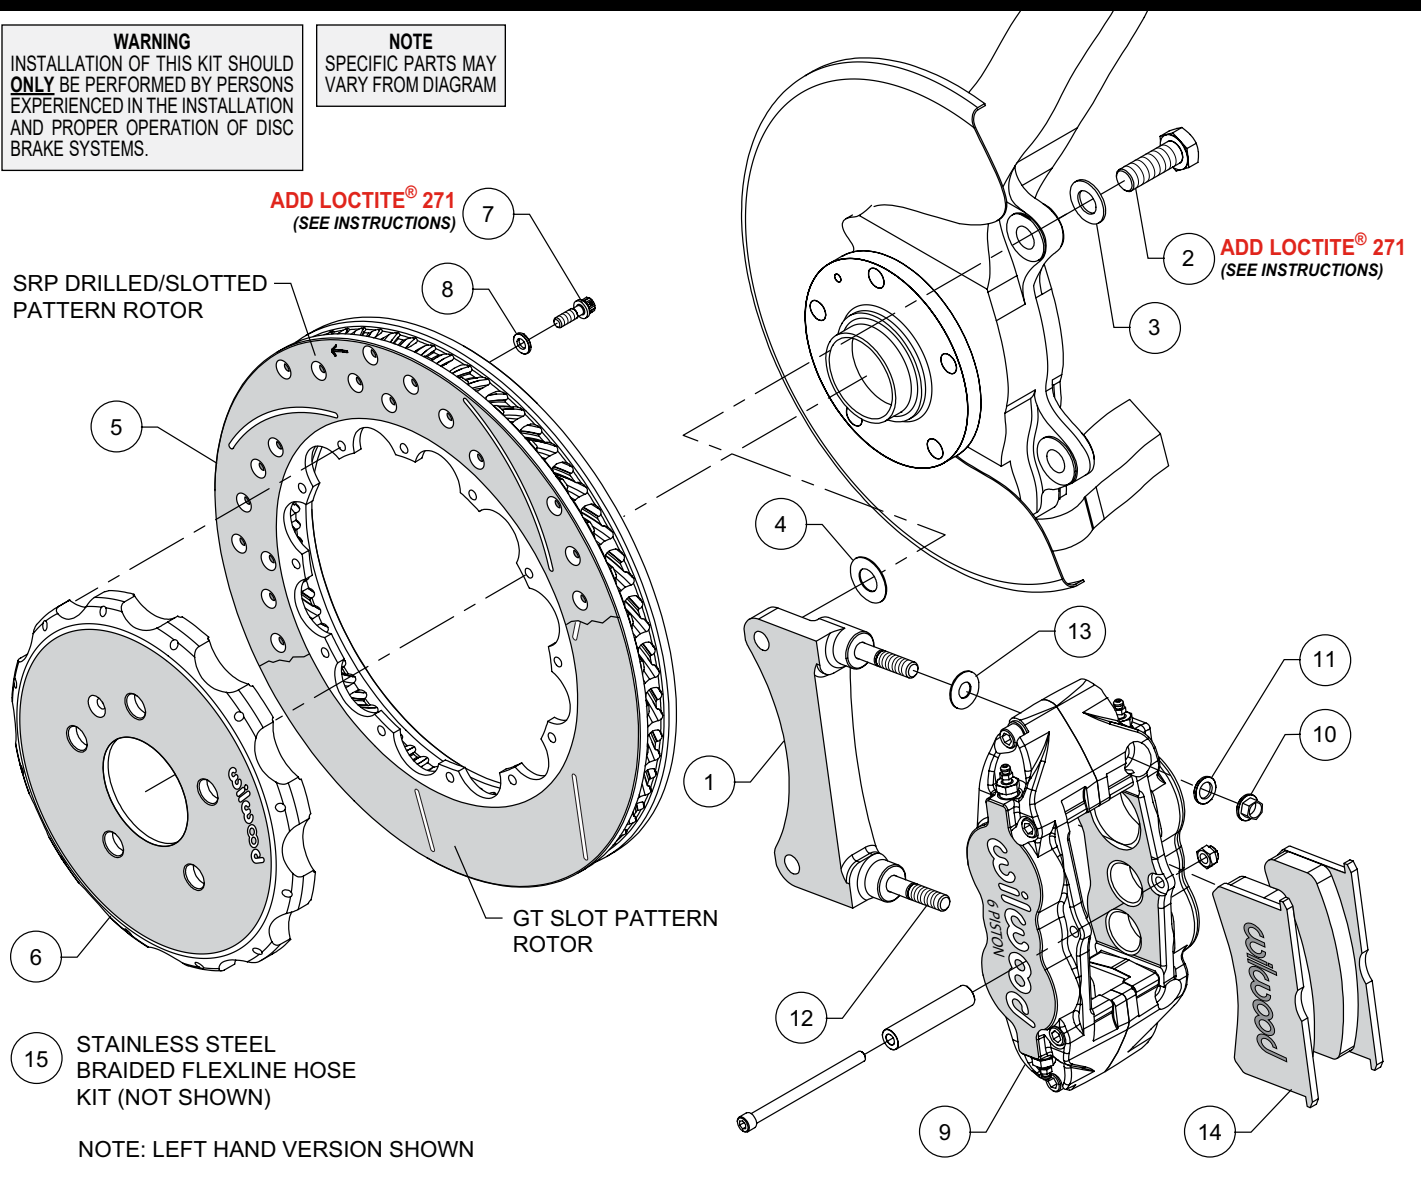
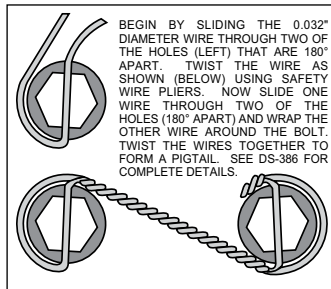

Figure 1. Typical Installation Configuration
Figure 3. Safety Wire Diagram
**Assembly Instructions** (numbers in parenthesis refer to the parts list and Figure 1 on the preceding pages):
- The caliper mount bracket (1) should initially be installed with clean, dry threads on the mounting bolts. Orient the bracket as shown in Figure 1 and Photo 1, and install using bolts (2) and washers (3). Initially place one .029 thick shim (4) on each bolt between the bracket and upright, Figure 1. Temporarily tighten the mounting bolts. **NOTE: The bracket must fit squarely against the mounting points on the upright.** Inspect for interference from casting irregularities, machining ridges, burrs, etc. Later, after the caliper alignment has been checked, the mount bolts will be secured using red *Loctite*® 271.
- Orient the rotor (5) and the hat (6) as shown in Figure 1 and Photo 2. Attach rotor to hat using bolts (7) and washers (8). Apply red *Loctite*® 271 to the bolt threads and torque to 155 **in-lb** using a criss-cross pattern. For an added measure of security, the bolts may be safety wired using standard 0.032 inch diameter stainless steel safety wire as shown in Figure 3. Please refer to Wilwood's data sheet DS-386 (available at [www.wilwood.com/Pdf/DataSheets/ds386.pdf](http://www.wilwood.com/Pdf/DataSheets/ds386.pdf)) for complete safety wire installation instructions.
- **NOTE: This kit contains distinct right and left hand calipers that must be mounted in a specific direction, as described below.** Initially place one .035" thick shim (13) on each stud (12) between the caliper and the bracket, as shown in Figure 1 and Photo 5. Mount the caliper (9) onto the bracket (1) using lock nuts (10) and washers (11), Figure 1. Ensure that the caliper is mounted so the largest pistons are at the rotor exit end of the caliper, in relation to the direction of rotor rotation. Temporarily tighten the lock nuts and view the rotor through the top opening of the caliper. The rotor should be centered in the caliper, Photo 6. If not, adjust by adding or subtracting shims (4) between the bracket and the upright. Always use the same amount of shims on each of the two mounting bolts. Once the caliper alignment is correct, remove the bracket mounting bolts (2) one at a time, apply red *Loctite*® 271 to the threads, and torque to 77 ft-lbs.